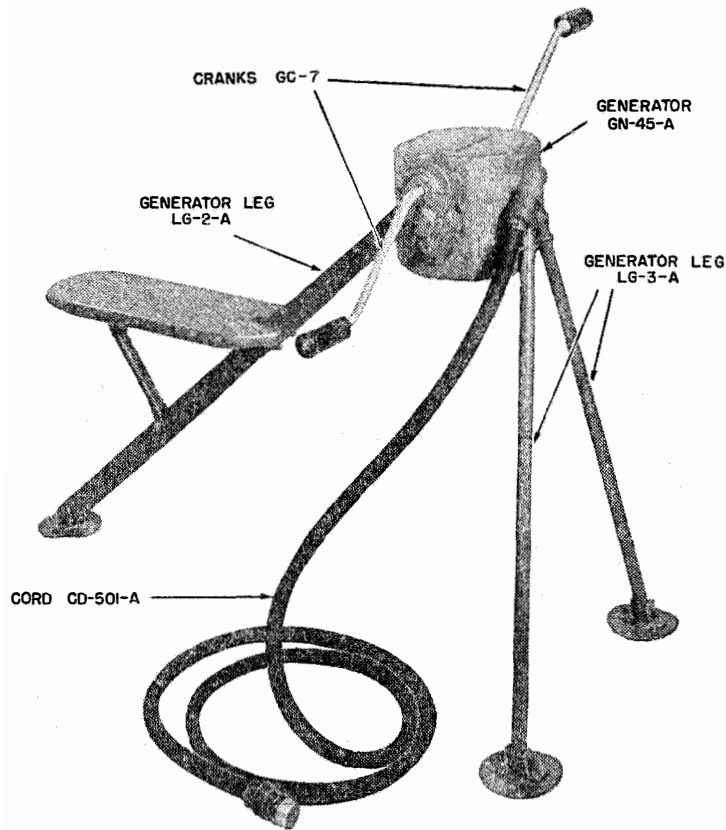

FIG. 4. GENERATOR GN-45-(*)
f. *Generator GN-45-(*):*— (FIG. 4)